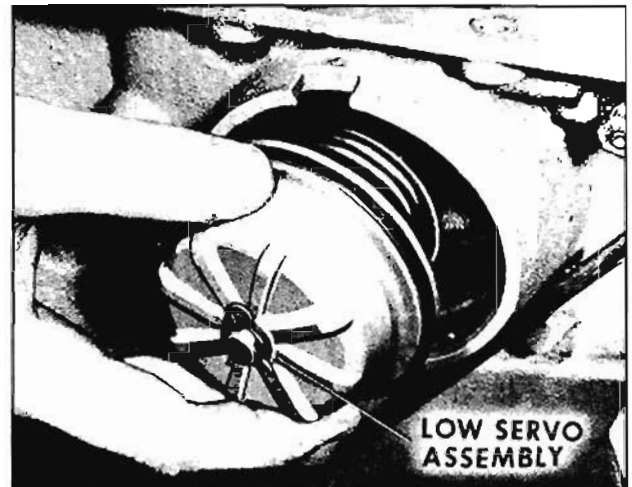

Fig. 6-429 Installing Low Servo
1. Install low servo piston assembly into case (Fig. 6-429)